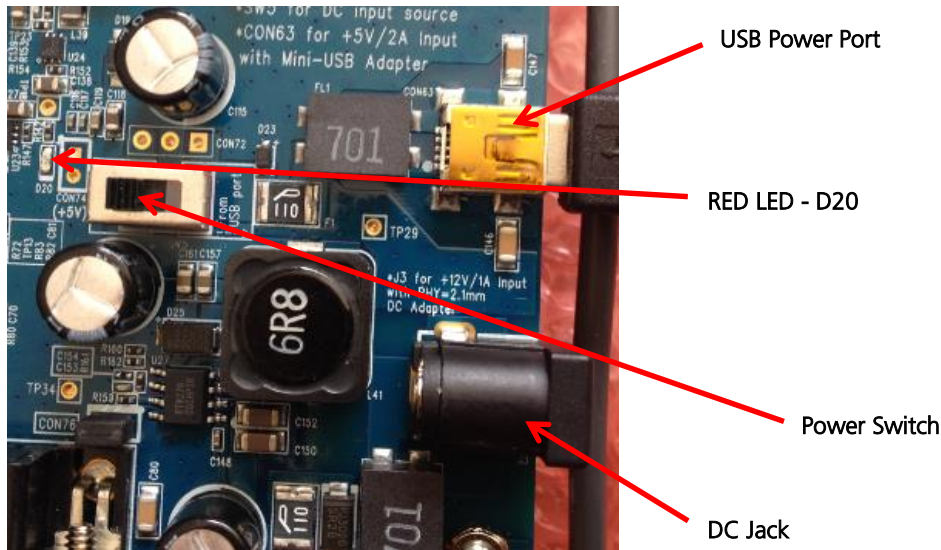

Figure 2: Alternative power sources
8. You can power the BB45NBT from either mains power or the USB power socket. Figure 2 shows both of these connectors and the power switch. Select which power supply you wish to employ:
- a. **DC Jack:** Ensure the **Power / USB Power** switch is set to "From USB Port." This is effectively the "off" position if you're intending to use DC power. Connect the power supply to the wall outlet and put the barrel into the **DC connector** (J3) on the BB45NBT breakout board as shown in Figure 2.
- b. **USB Port:** Ensure the **Power / USB Power** switch is set to "From DC Jack." This is effectively the "off" position if you're intending to use USB power. Connect the USB A connector to your PC or USB hub USB port. Connect the micro USB connector to the BB45NBT board USB power socket shown in Figure 2. No LEDs should be lit on the board.
9. Slide the Power switch (shown in Figure 2) to either the **From DC Jack** or **From USB Power Port** to match your chosen method of powering the BB45NBT board to apply power to the WB45NBT. The Red LED D20 will light on the BB45NBT board.